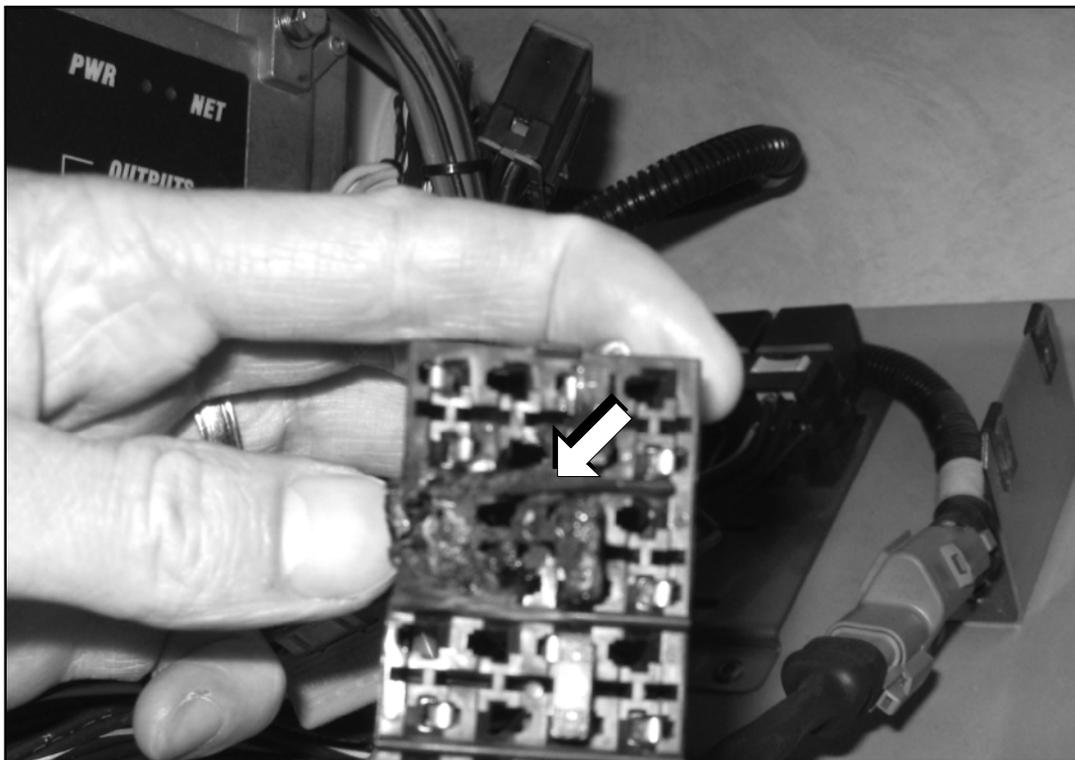

Figure 7. Fuse block in curbside, parcel rack compartment #1.
20. Visually inspect the fuse block for heat damage or melting at locations A1 and A2 (refer to Figure 7).